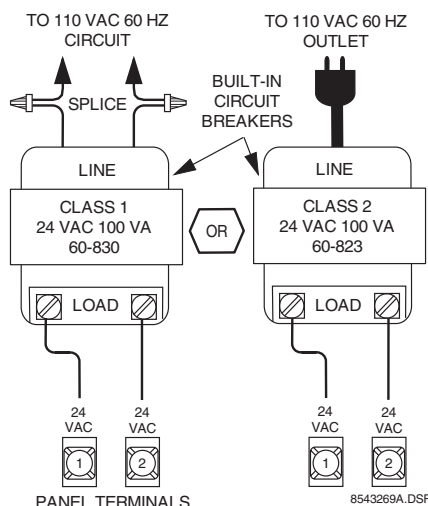

Figure 20. Wiring an AC Power Transformer to the Panel
- Wire the AC power transformer to the panel as shown in Figure 20.